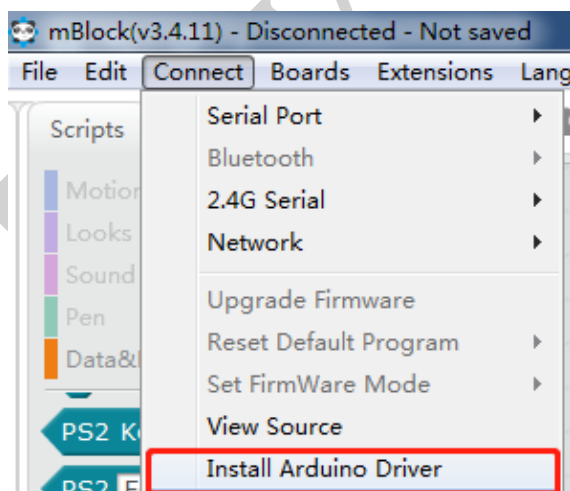
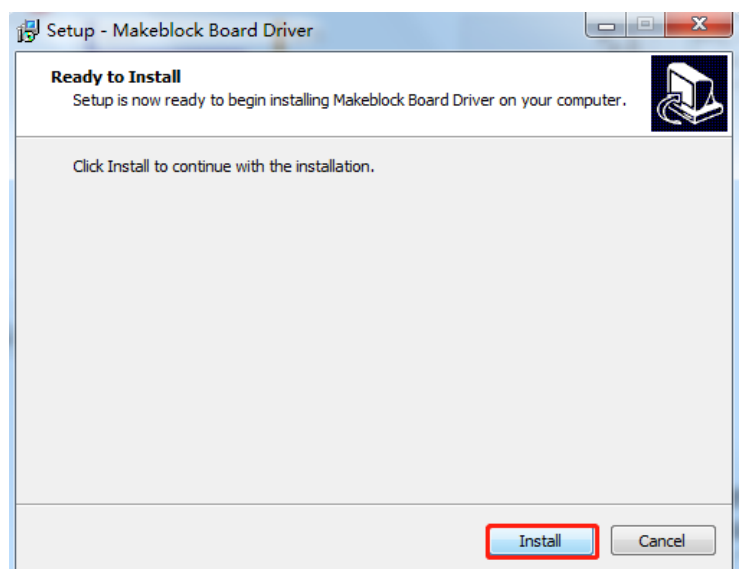

Figure 2-9
Figure 2-10
- 2) Install the Hummer-bot main control board driver, click “Connect→Install Arduino Driver” as shown in Figure 2-9; click “Install”, as shown in Figure 2-10, drive installation;
Open the serial monitor, at this point we will see the continuous printing of Hello Word on the serial monitor, as shown in Figure 2-10.